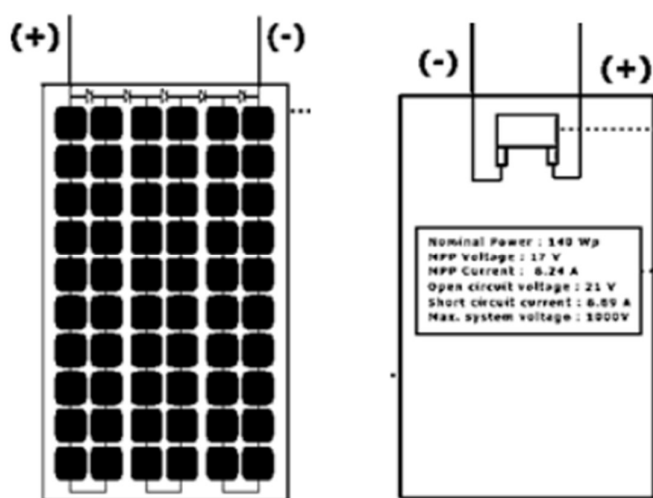

Fig. 1.28: Front Side and Back Side of a PV Module: The Junction Box, consisting of Positive and Negative Terminals, is placed behind the module
Solar photovoltaic (PV) panels have different technical specifications that affect how well they perform. It's important to understand these details to choose the right panel for your needs. Key factors to consider include the panel's power output, efficiency rating, temperature response, and voltage. You should also look at performance metrics like energy production, degradation rate, and warranty details. These aspects help you evaluate the long-term reliability of solar PV systems. By reviewing these technical specs carefully, you can make better decisions when selecting solar panels for your renewable energy projects. The Front and back sides of the PV module are shown in the figure. 1.28.